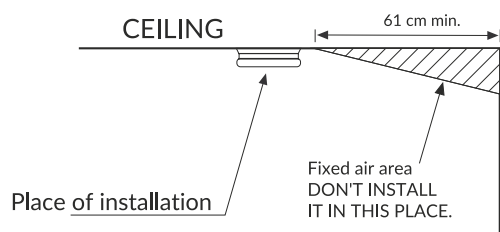

fig. 3
Unscrew the top cover, remove the small magnet as shown in fig. 3. The device is turned on.
1. Select the suitable installation location as shown in fig. 3 and 4.